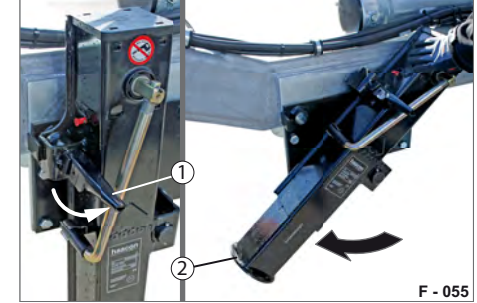

Fig. 54 Securing the swivel support
- Pull on the locking lever (Fig. 54/1).